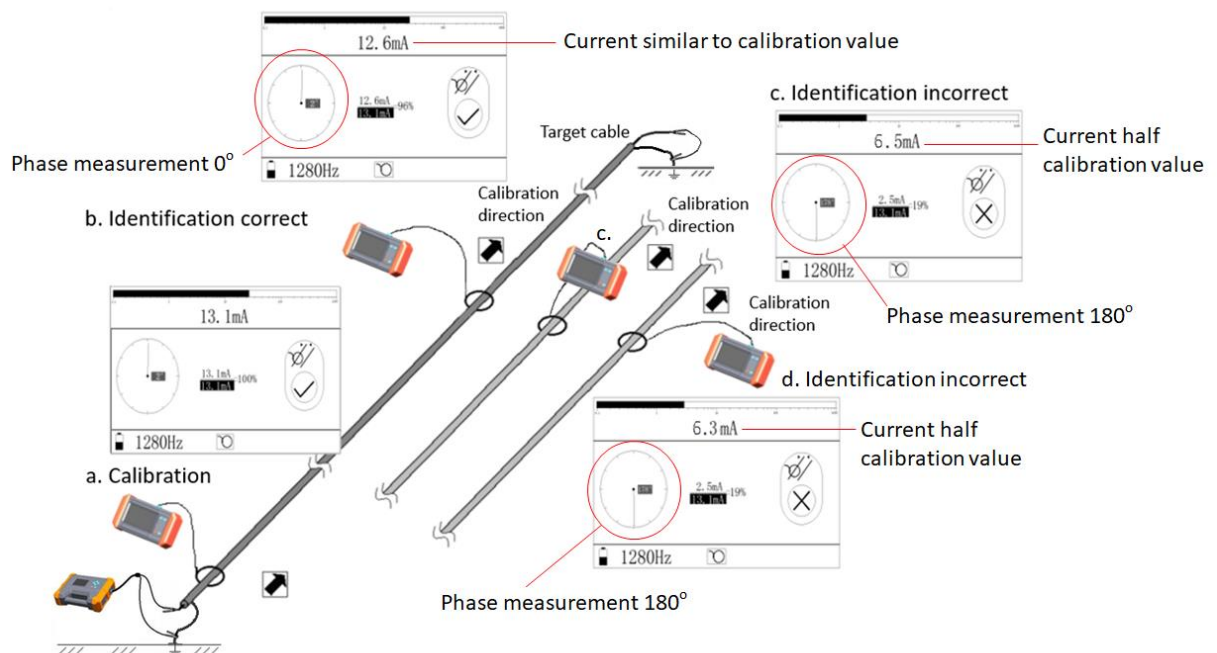

Figure 5.5: Results for three parallel cables with core conductor earth connection
- The first example (Figure 5.5) shows three cables, including the target cable, are in the same path. The measurement result will show the target cable current is I , and the phase is near 0° , indicating that the identification is correct; the current of the two adjacent lines will be half the value of I , with the phase near 180° , leading to recognition of incorrect cables.